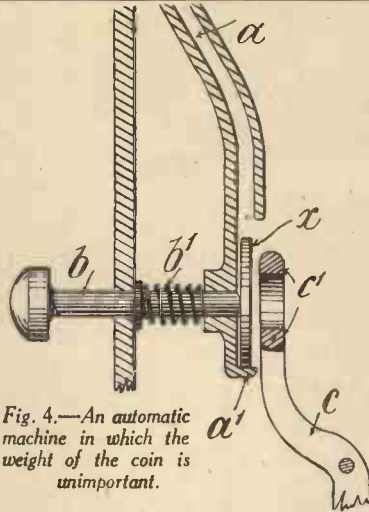

Fig. 4.—An automatic machine in which the weight of the coin is unimportant.
instance, in one such mechanism, see Fig. 4, the coin chute (A) terminated in a lip (A') to provide a temporary resting-place for the coin (X). A slidable rod (B) operating against a spring (B') had its inner end opposite the coin (X) in its temporary resting position, and opposite said end was fixed a lever (C) having a ring-shaped termination (C'). The other end of the lever was connected to any suitable mechanism for operating the locking means of the machine.